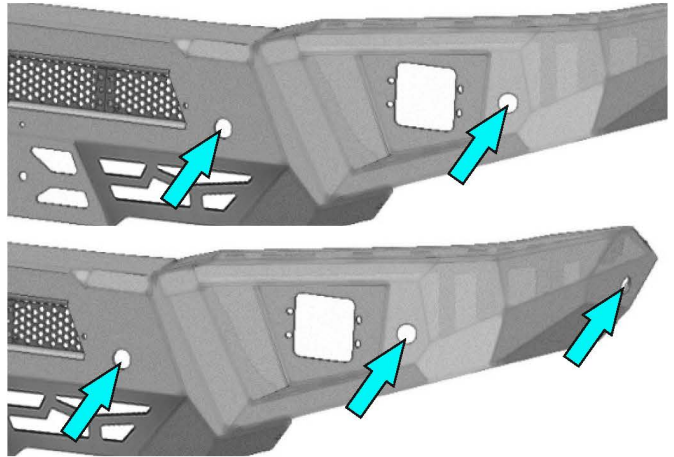

Fig.37
37. In case if your vehicle has 4 parking sensors, hammer out 4 plugs, on assembled bumper, placed closer to center. If your vehicle has 6 parking sensors, then hammer out all plugs of the bumper as shown in fig 37.